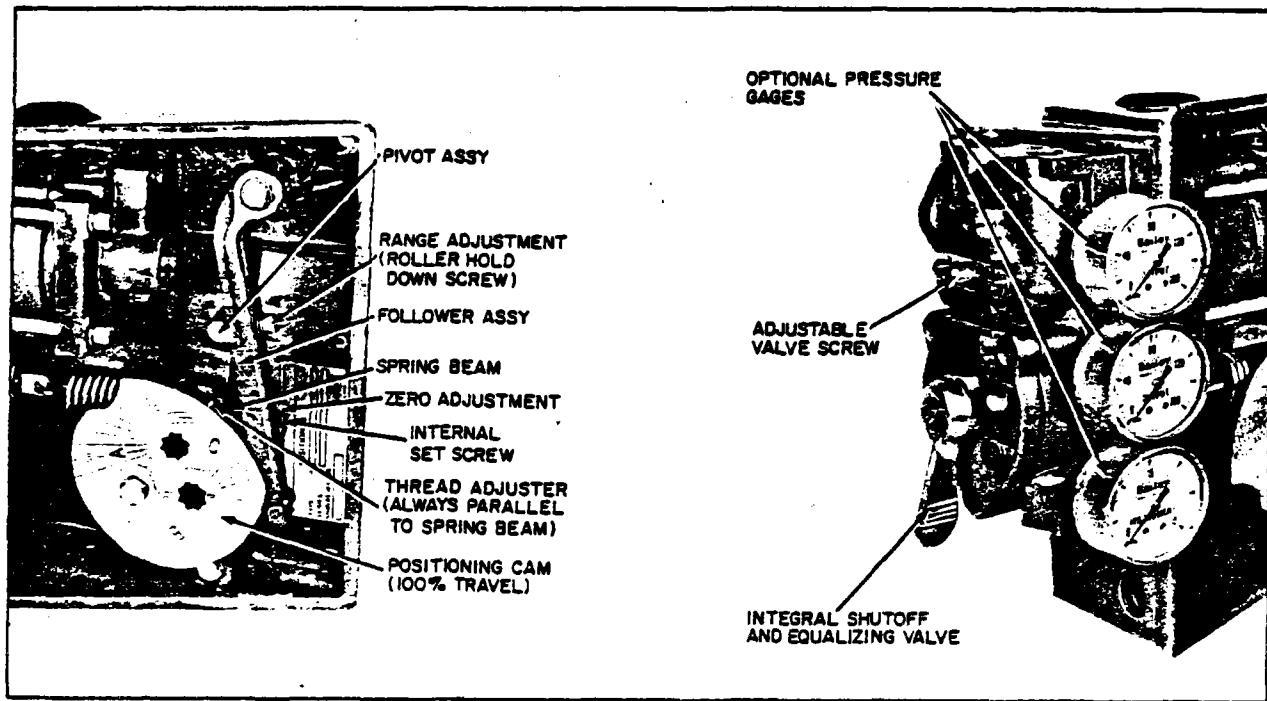

FIGURE 10 - Positioner Adjustments
If necessary to change or correct output pressure level of Positioner, follow the procedure outlined below and refer to Figure 10.
If necessary to change or correct output pressure level of Positioner, follow procedure outlined below and refer to Figure 10.
ZERO AND RANGE ADJUSTMENTS (Refer to Figure 10)
3. If piston (or valve) begins to move from its CLOSED position, loosen set screw located in recessed hole of knurled adjustment nut and turn zero adjustment (Figure 10) clockwise to increase range spring tension until piston (or valve) returns to a CLOSED position.
4. Increase input signal above minimum range value (3.5 psi for 3-15 unit or 3-27 psi unit). If piston (or valve) does not begin to leave CLOSED position immediately, turn zero adjustment nut (Figure 10) counterclockwise until such movement is obtained. Once zero adjustment is completed, retighten set screw to lock zero adjustment in place.
6. Set input signal at maximum range value (15 psi for 3-15 psi unit or 27 psi for 3-27 psi unit). If piston (or valve) does not move to full OPEN position, loosen roller hold down screw (Figure 10) and slide roller along beam until piston (or valve) reaches full OPEN position. After adjustment, tighten hold down screw firmly in place.
By using the zero adjustment (Figure 10) an initial tension may be imposed upon the range spring so that the piston (or valve) will not begin to move from its minimum position until input signal has increased from 3 psi to any value up to 9 psi (3-15 psi unit) or 15 psi (3-27 psi unit). This adjustment is of value when two or more power operators are to be operated in sequence; where the power operator is equipped with a minimum stop; or where the characteristics of the device which the operator is moving must be matched with that of another regulated device.